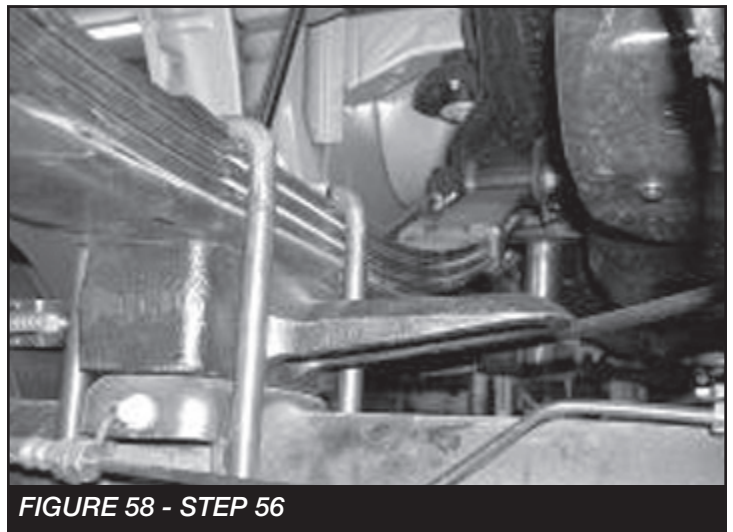

FIGURE 58 - STEP 56
56. Locate and install the rear lift blocks FTBK22. The extended bump stop perch will be facing inboard of the truck. Using the Fabtech u-bolts, nuts and washers, align the axle, lift blocks, and springs and torque u-bolts to 129 ft-lbs. **SEE FIGURE 58**